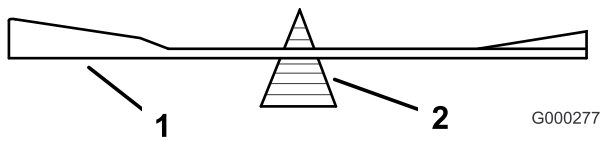

Figure 57
2. Check the balance of the blade by putting it on a blade balancer (Figure 57). If the blade stays in a horizontal position, the blade is balanced and can be used. If the blade is not balanced, file some metal off the end of the sail area only (Figure 55). Repeat this procedure until the blade is balanced.